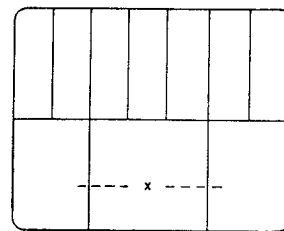

Fig. 5-7
- 3) Depress the TRACKING button  $\left[ \begin{array}{|c|} \hline < \\ \hline \end{array} \right]$  or  $\left[ \begin{array}{|c|} \hline > \\ \hline \end{array} \right]$  on the Front panel until "X" mark can be seen in the center position as shown in Fig. 5-7.